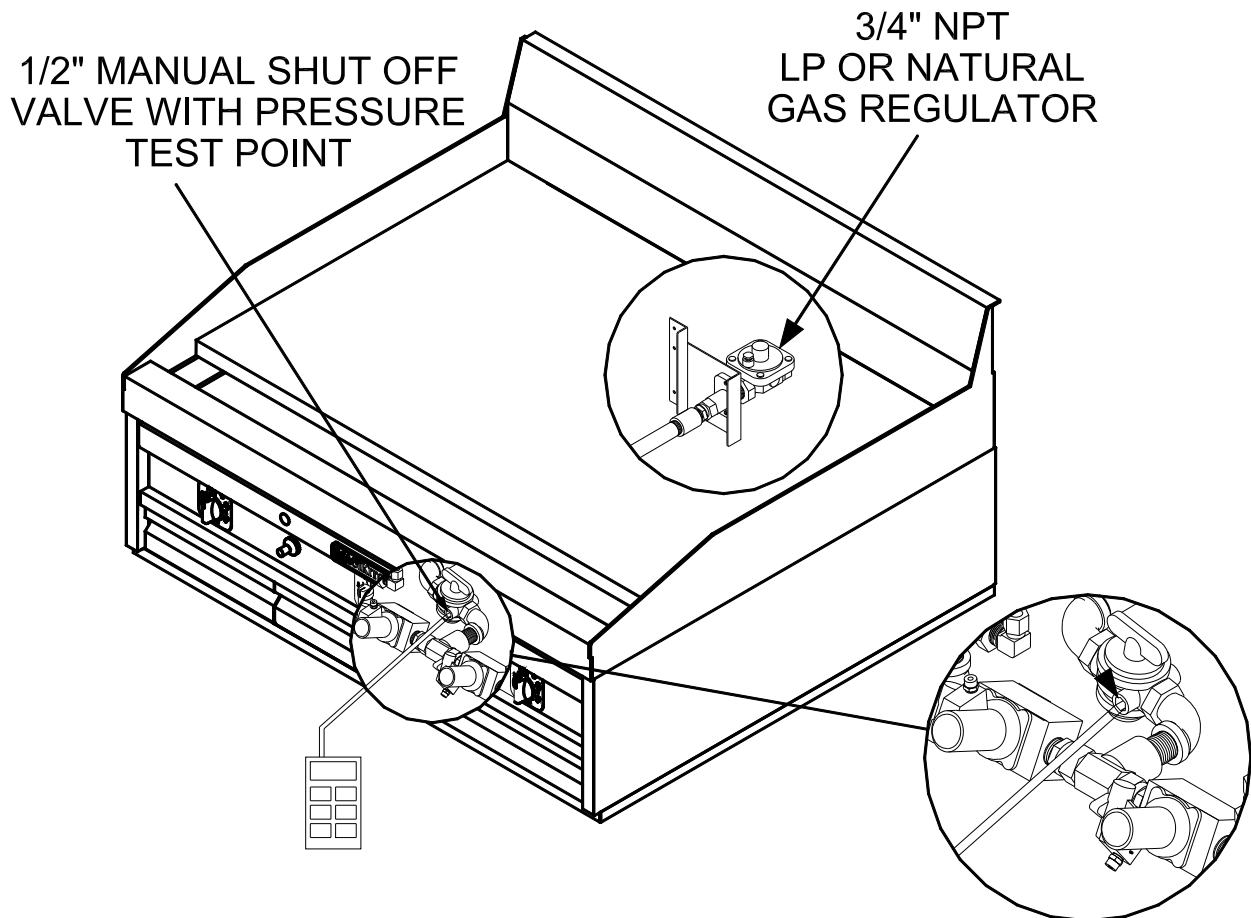

Figure 6a, Snap Action Regulator System
2. Turn the Manual gas shut off valve to the “ON” position, this valve is located at the rear of the unit, see Figure 6a. To open the valve to allow gas flow the handle should be in line with the manual shut off valve.